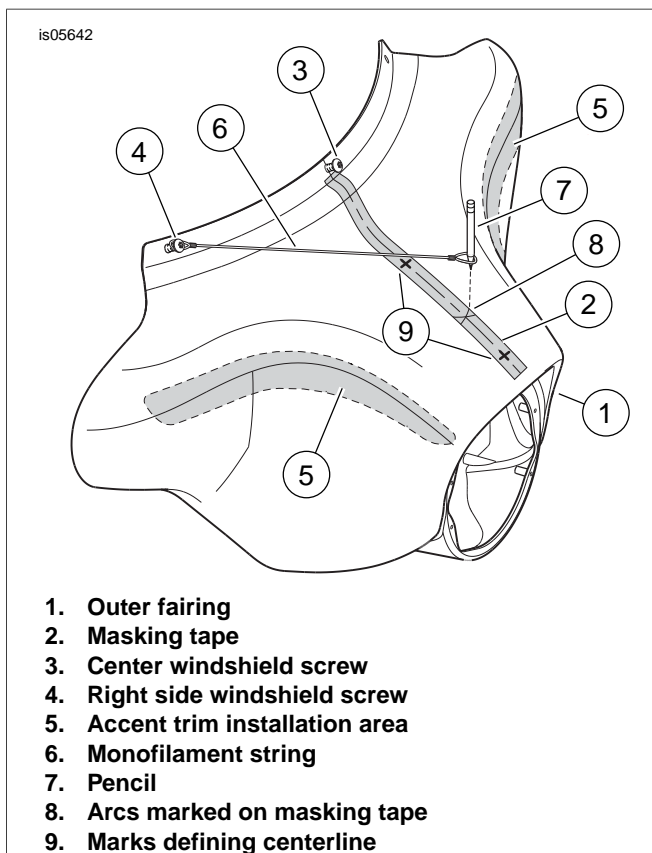

Figure 1. Mark Fairing Centerline
1. See Figure 1. Apply a strip of masking tape (2) to the outer fairing (1), running from the center windshield screw (3) to the top center of the fairing headlight visor.